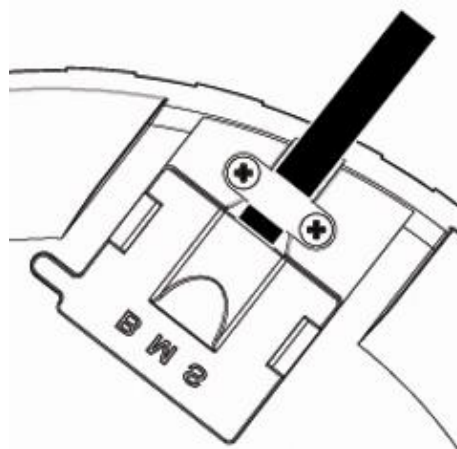

Figure 22 – Dust Cover Gland Attached(Cable Not Supplied)
- 2.8.8 Re-apply BMS dust cover gland (*See Figure 22*).